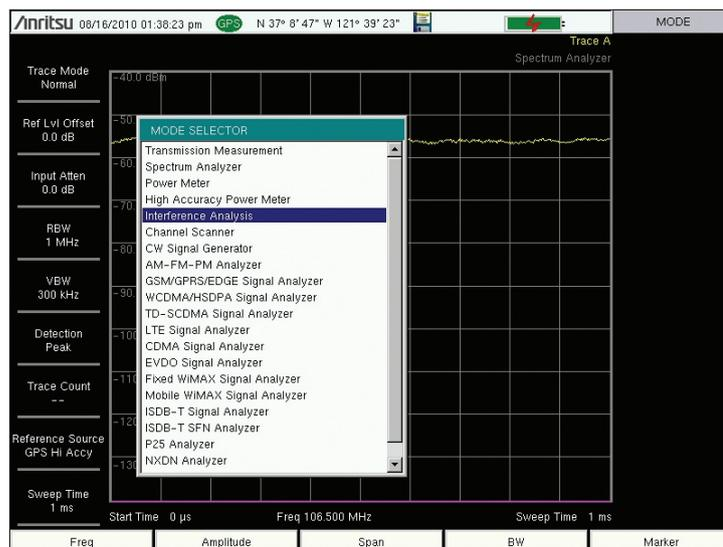

Figure 4: Mode Pop-Up Menu
1. Press the **Shift + Mode (9)** key.
2. In the pop-up menu, scroll down until **Interference Analyzer** is selected. (Figure 4)